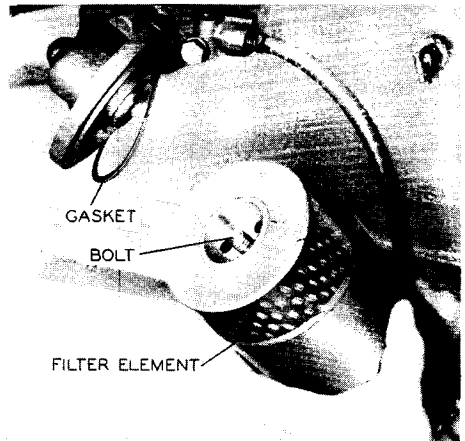

Figure 14
2. Loosen the nut on the filter shell until the shell and element can be lifted off the base together, Figure 14.
3. Pull the contaminated element out of the shell, Figure 14.
5. Install a new Case Filter element on the bolt. Be sure the element is installed as shown in Figure 14.
6. Install the new filter base gasket provided with the new element, Figure 14.